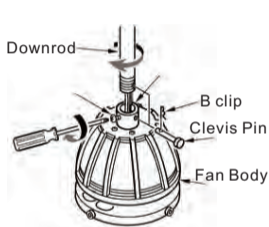
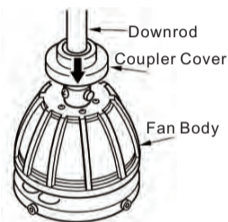

Fig.10
Fig.11
Step 3: Thread the rod into the motor shaft, tighten the set screw, clevis pin ,**and slip the coupler cover on to the fan body.** (Fig. 10 &Fig. 11)